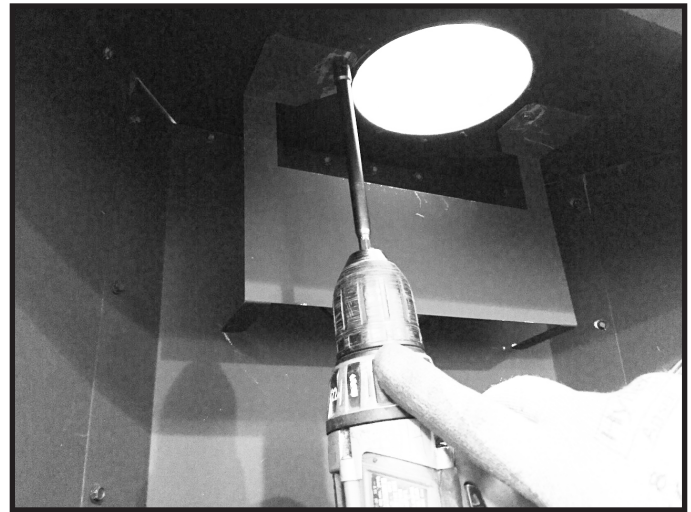

Figure 4.18 Remove Flue Visor
- Remove screws holding flue visor to firebox top. See Figure 4.18.